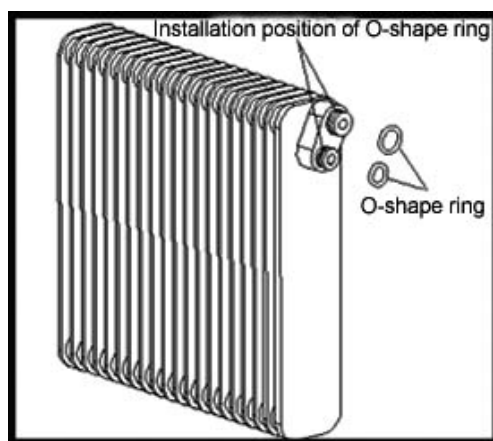

Figure 6-23
- 5) Disassemble 2 O-shape rings from evaporator core (Figure 6-23)